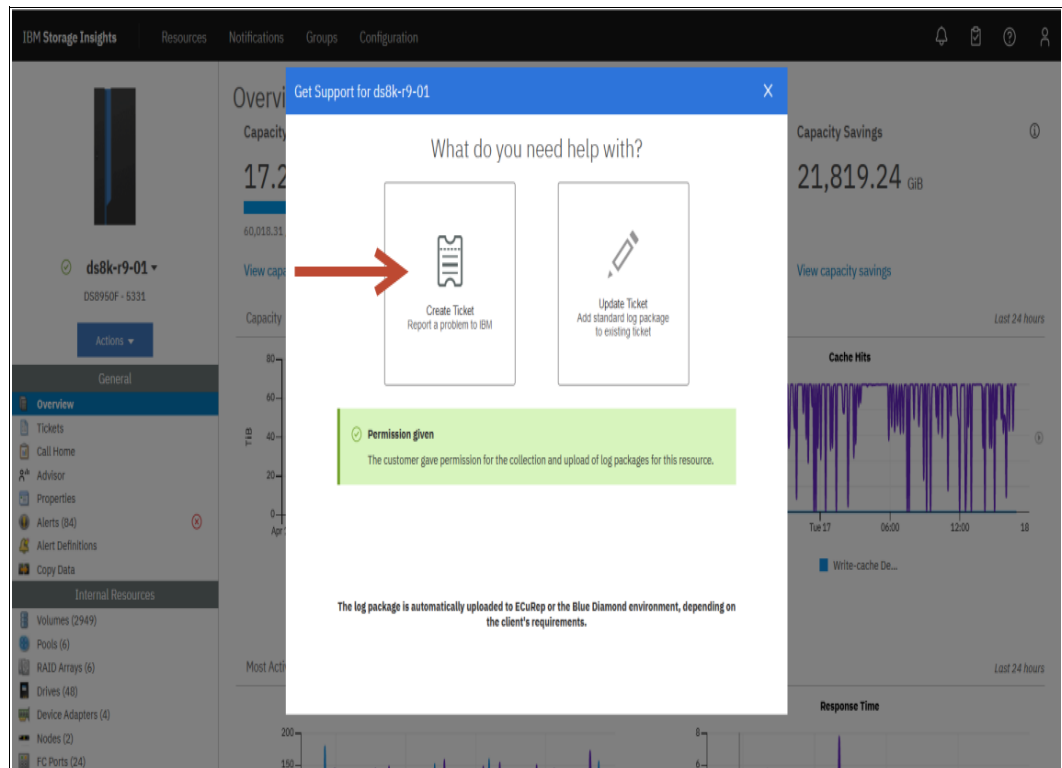

Figure 12-21 IBM Storage Insights: Create Ticket
2. A new window opens with two options from which to select. Click **Create Ticket**, as shown in Figure 12-21 on page 454.